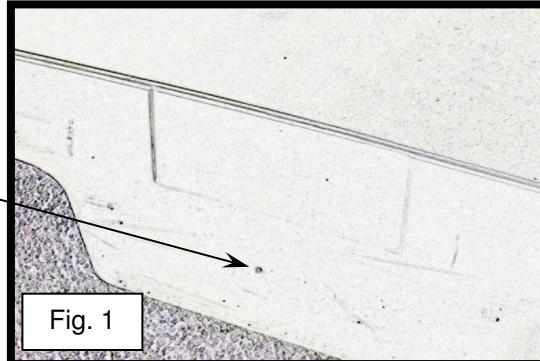

Fig. 1
- 1) Locate drill point on exterior surface of the accumulation center. It is located below an indented rectangular area on the part. (see fig. 1).